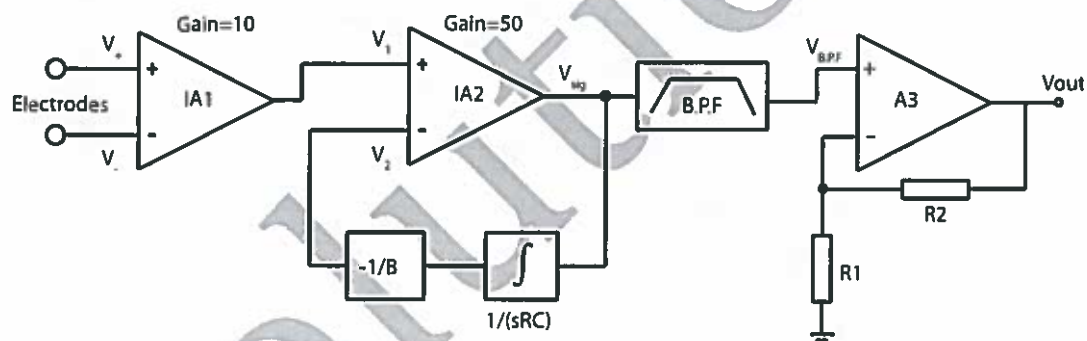
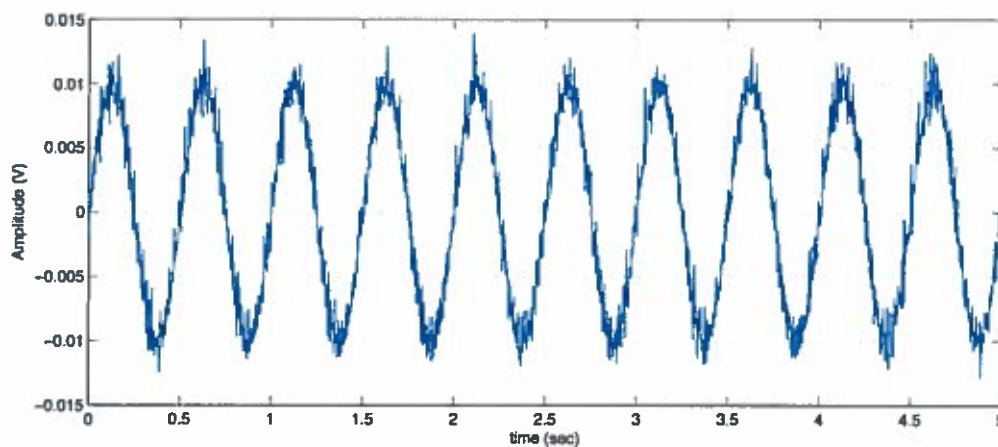

Figure 1.1
Figure 1.2, EMG signal with motion artifact
- b) Table 1.1 lists five commonly observed bio-potentials and their amplitude and frequency characteristics. A doctor requires an instrumentation system to record activity from the quadriceps muscles to aid rehabilitation during stair climbing. A schematic of a suitable instrumentation system is shown in Figure 1.1 to measure the signal in Figure 1.2. The gains of the first and second instrumentation amplifiers are 10 and 50 respectively and the system runs off a $\pm 3V$ supply.
- c) (i) Design a suitable band pass filter (B.P.F in Figure 1.1) to extract the signals of interest. You may assume a 40dB/decade roll off for the low-pass and 20dB/decade roll off for high pass sections. State equations for cut off frequencies and select suitable resistors. You may assume you have 10nF capacitors to your disposal. Show all circuit schematics and annotate component values.
When the doctor conducts the stair climbing experiment he notices significant interference on the on the EMG signal, as shown in Figure 1.2, of a periodic nature.
ii) Why will this be a problem for the instrumentation system shown in Figure 1.2 ?
iii) Choose suitable values for B, R to filter out the unwanted signal shown in Figure 1.2, assuming $C=10\text{nF}$.
iv) Calculate values for resistors R1 and R2 to maximize the dynamic range for the detected signal shown in Figure 1.2.